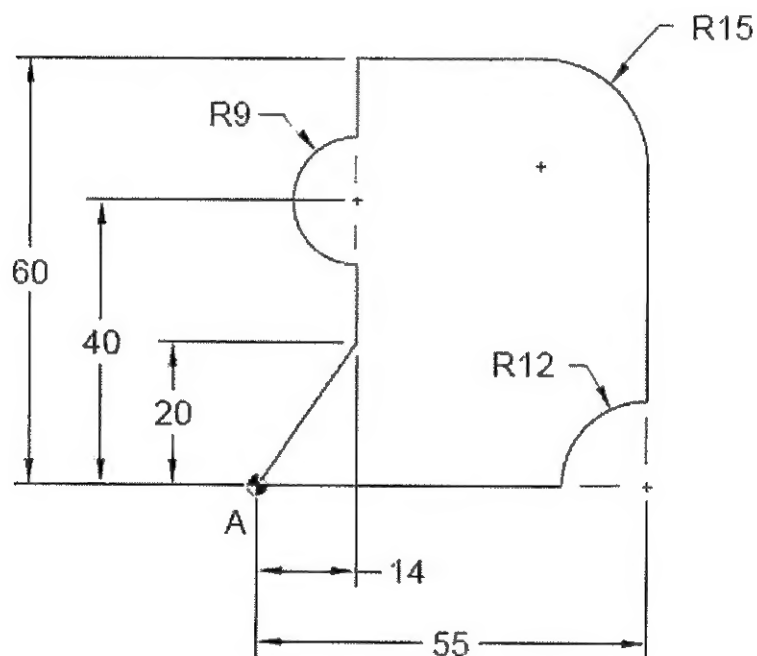

Figure Q4
- (b) For the component shown **Fig. Q4**, make a part program for machining on a CNC machining center equipped with the ISO controller using absolute programming. Choose the bottom left datum A, as the origin of the part and cut in "clockwise direction". (All dimensions in mm)